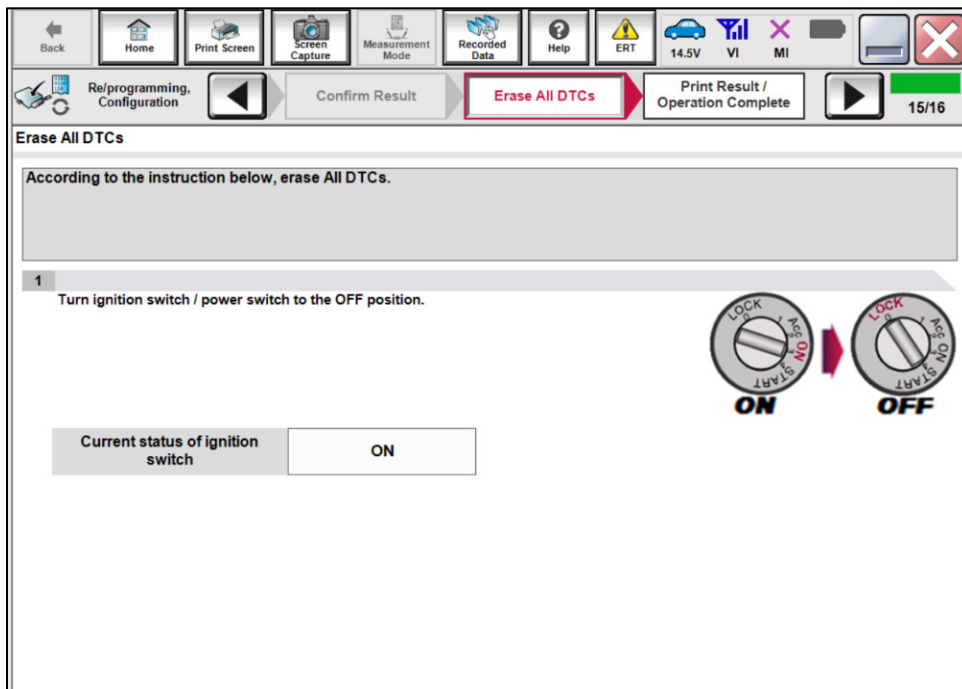

Figure 17
25. Press the power switch one (1) time to turn the EV system OFF (Figure 17), and then go to step 26 on page 15 immediately.